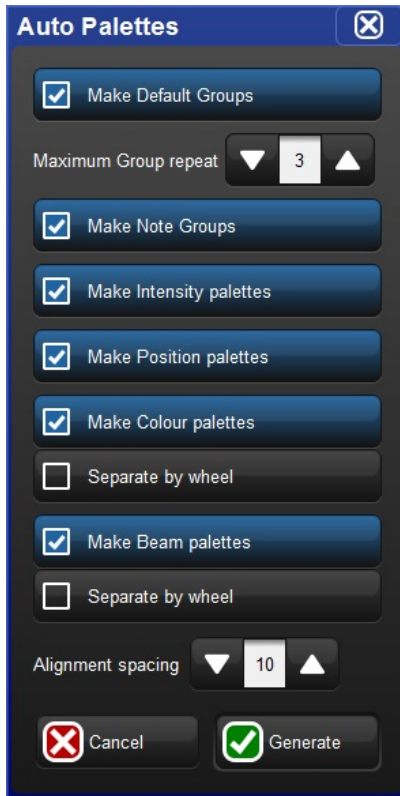

Figure 5.10. The Auto Palettes window
2. Click on the Auto Palettes button (located in the toolbar at the top of the Fixture window) and select from the options in the Auto Palettes window; see Figure 5.10, “*The Auto Palettes window*”.